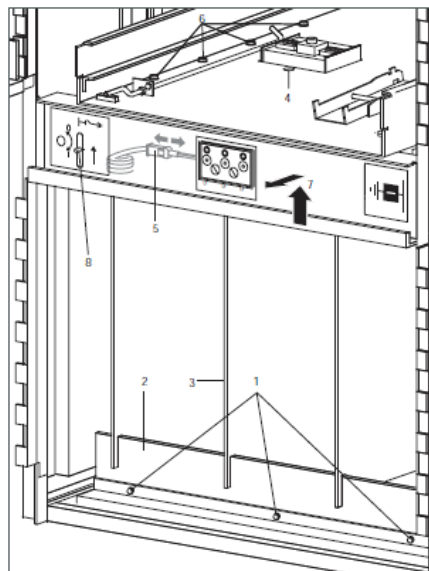

Figure 26
3. Release the three securing bolts (see Figure 26, 1) of the support (2).
4. First remove support (2) and then the four insulating walls (3).
5. Dismantle auxiliary switch block for truck (4) and deposit carefully in the cable compartment.
6. If the panel features a voltage indicator: disconnect the plug-and-socket connector of the unit (5).
7. Remove the securing bolts of the truck carrier (6).
8. First raise truck carrier on the front, then pull it out (7).
Re-install the bottom plate of the circuit breaker compartment and dismantled components by reversing the above order. When screwing the truck carrier down, check that the slide (see Figure 26, 8) to open the insertion opening for the earthing switch operates smoothly. If necessary, release bolts and reposition the truck carrier.